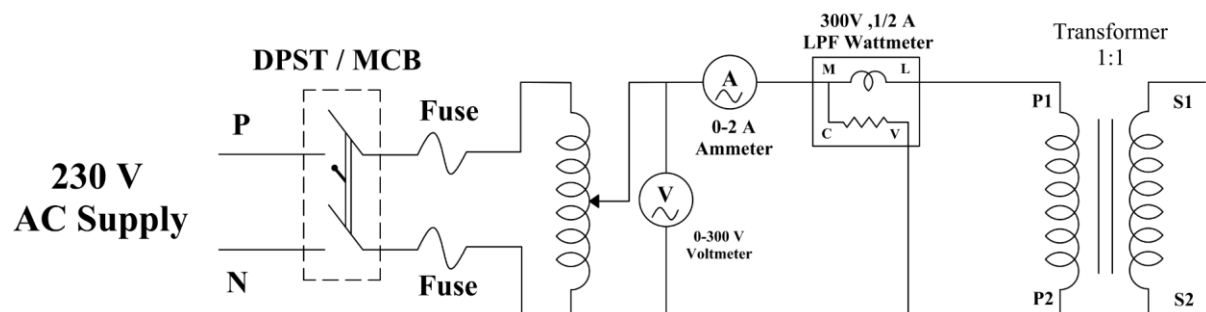

Fig 1.1 Open Circuit Test
1. Make the connections as shown in the circuit diagram as in Fig 1.1.